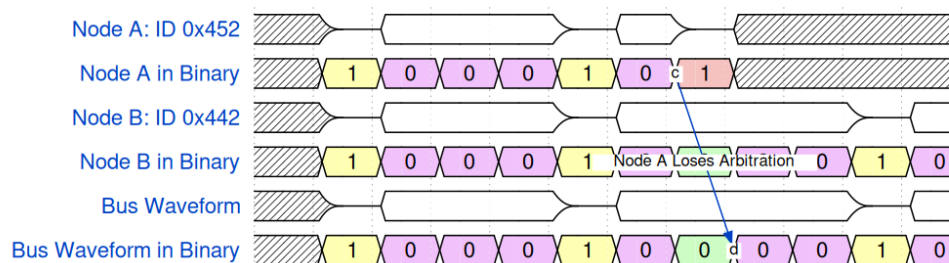

Figure 26: CAN Arbitration Sequence
CAN features a unique, *non-destructive* (without data loss), *bit-wise* arbitration mechanism, based on the message identifier. Due to the open-drain nature of the bus, a dominant bit (0) will always override a recessive bit (1). When two nodes start transmitting a message identifier, they constantly monitor the bus to see if the message identifier bit they are transmitting is the same as the message identifier bit on the bus. If a node sees that the message identifier it is transmitting is different from the message identifier on the bus, it will stop transmitting and wait for the bus to become idle before trying to transmit again. Because of this, the node with the lowest message identifier will always win the arbitration and be able to transmit its message (and thus, lower message ID's have higher priority). An example of CAN arbitration in action is shown in Figure 26.